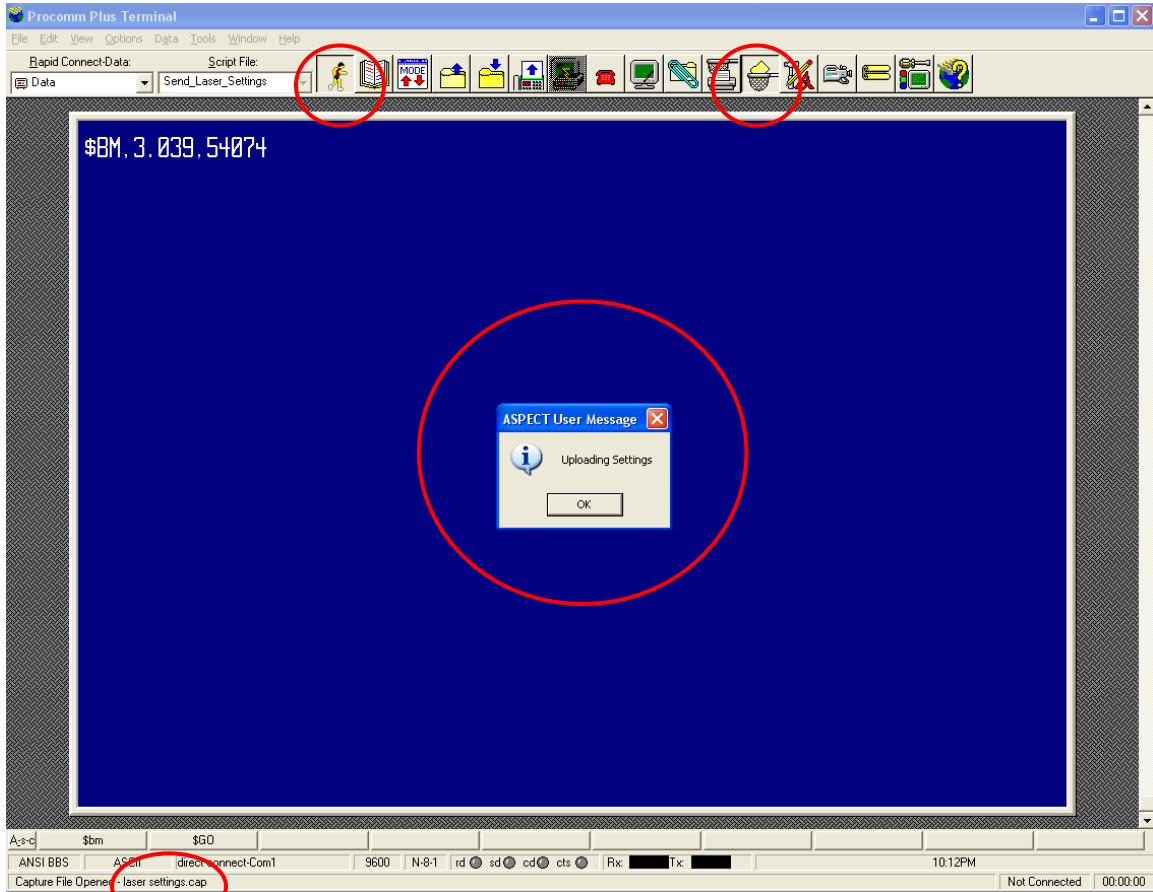
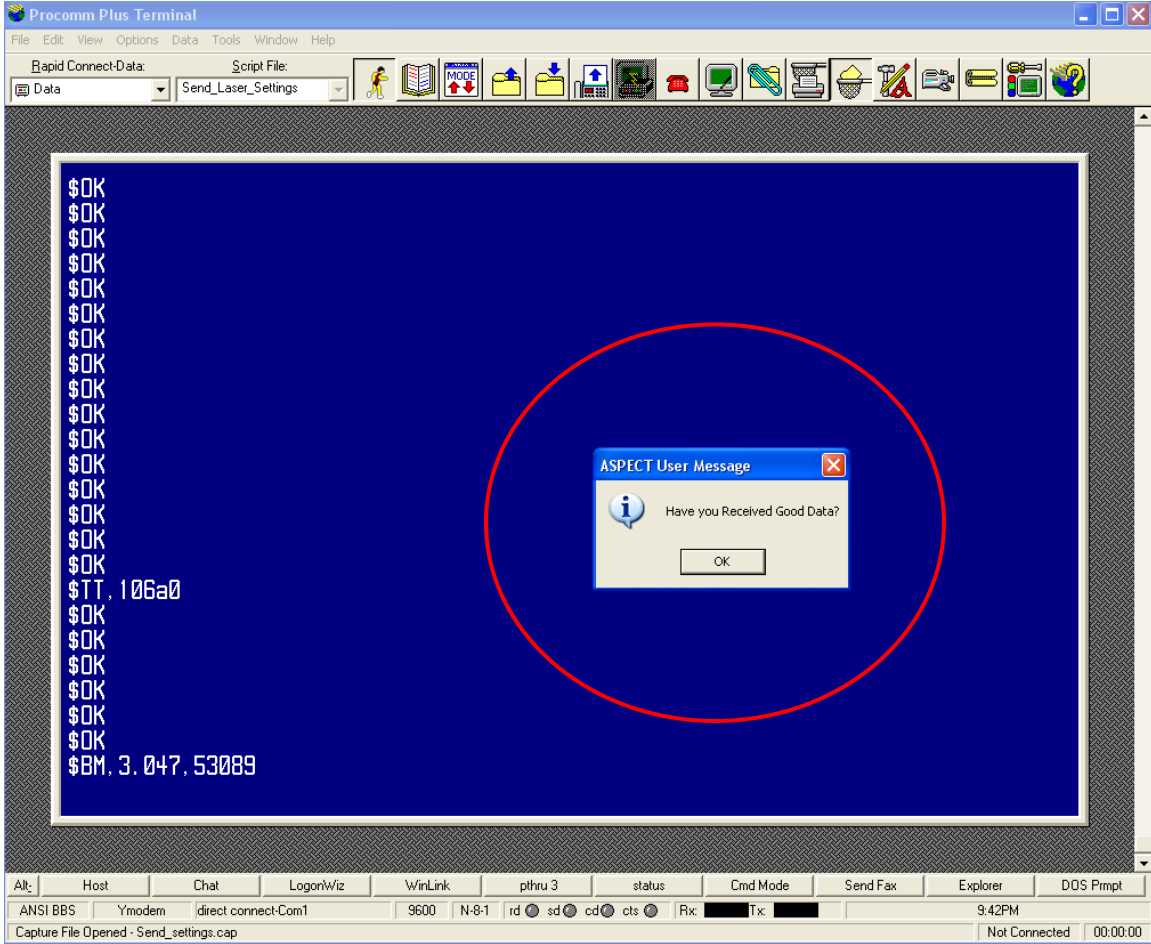

Figure 31
Figure 32
5. After you press the **START/STOP SCRIPT** button, the “running man” will be indented as will the **CAPTURE** button. At the lower left of the screen the **Capture file** status will change from closed to Laser_Settings.cap (fig 31).
7. At this point the script will send a number of commands to the sensor, including the approved settings (fig 32). The first command is a data request, the second switches the sensor into the command mode, and the third shows the software version of the sensor. After the third command, the settings are uploaded. The sensor returns an **OK** for each successful command and an **ER, 1** for those commands that fail. A fail command is most likely caused by an older laser version, rather than a problem with the sensor. The script is written using the newest set of commands, and some commands may not be in all sensors. Contact the CIL/SIL if there are errors. You will need to provide the `Get_Laser_Setting` and `Send_Settings.cap` files. Table 5 contains a list of the commands used by the script.
- At the end of the script, the sensor goes back into measurement mode. You will then see a data request (\$BM) as shown on the last line in fig 32. Check the values and make sure they are close to the value at the beginning of the download (as in Fig 31). If you receive an error message, contact the CIL/SIL. Click **OK** in the User Message block to continue.